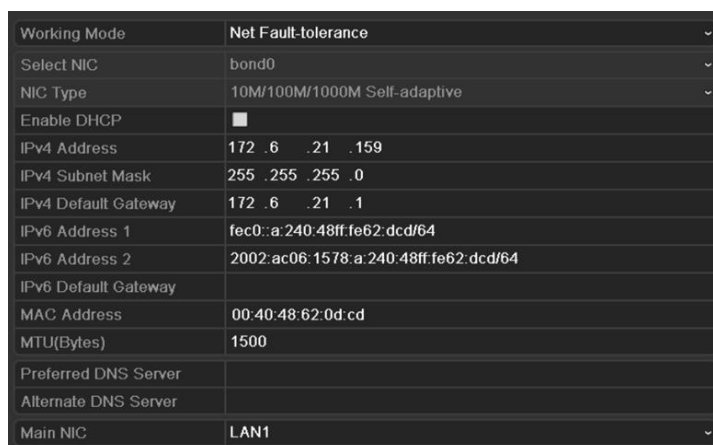

Figure 9. 22 Network Settings Interface
2. Set the IPv4 Address, IPv4 Subnet Mask, IPv4 Gateway and the Preferred DNS Server in the Network Settings menu, as shown in Figure 9. 22.